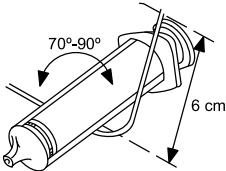

Figure 3. Curve the stylet
2. Select a stylet according to the function and to the preferred firmness. If desired, gently curve the stylet with any sterile, smooth-surfaced instrument (e.g., 10-cc or 12-cc syringe barrel) (Figure 3 Curve the stylet on page 14). A gentle curve is less likely to straighten than a sharp bend as the stylet is used.